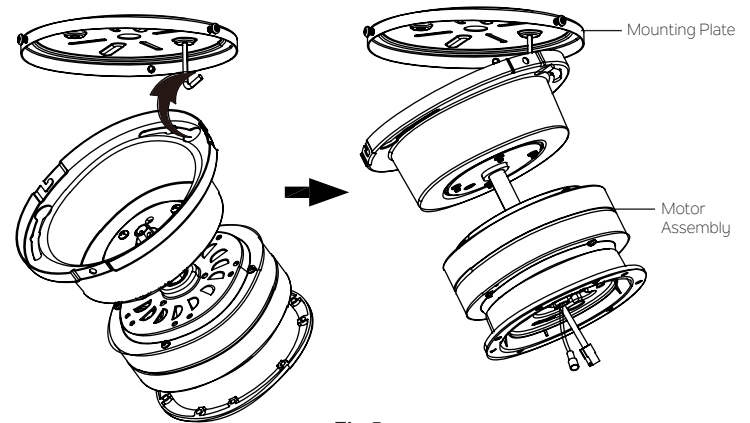

Fig.5
Step 2. Hook the motor assembly onto the mounting plate as shown. You can now proceed with the electrical wiring of your fan. (Fig.5)